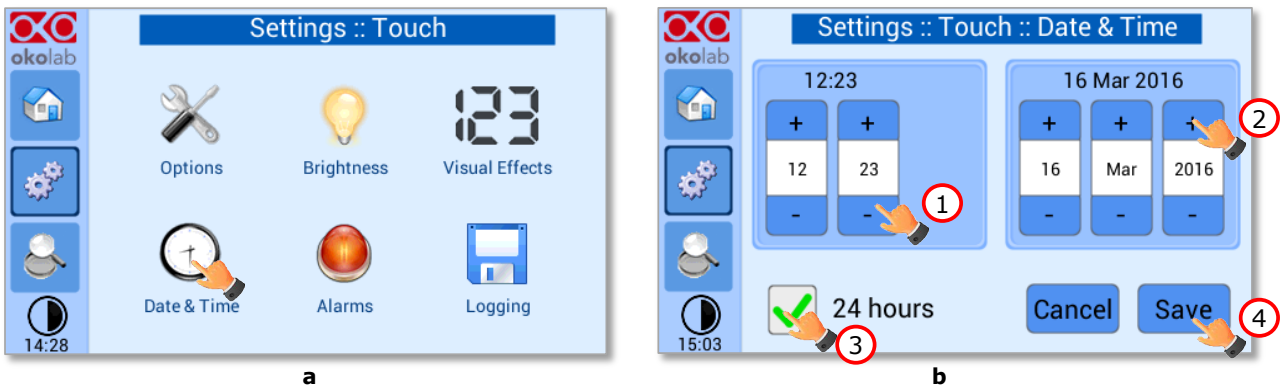

Figure 31. Touch screen settings. Date and Time (a - b).
1. Press the *Date & Time* icon (see Figure 31 a).
2. Set the values by using the +/- icons (1 and 2 in Figure 31 b).
Tip ► Flag the 24 hours box, if you want to use the hour format based on 24 hours (3 in Figure 31 b).
3. Click on *Save* to confirm (4 in Figure 31 b) or *Cancel* to undo.